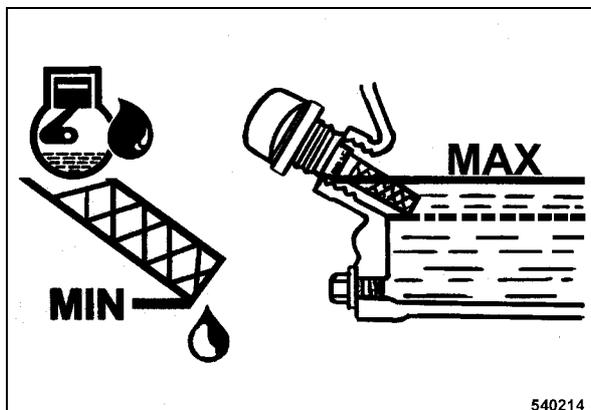

Fig. 42
- The oil level must reach the bottom edge of the filler bore (Fig. 42), top up if necessary.